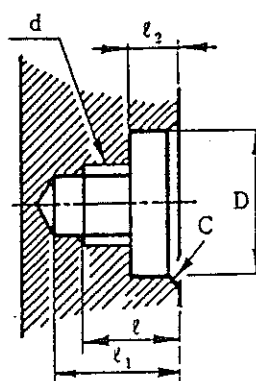

Fig. 5-6
■ THRAD (D in Figure 5-6)
- Pitch and threads/inch (d in Fig. 5-6)
- CBOR ϕ (D in Figure 5-6) Set the counter bore diameter.
- CBORD (ℓ_2 in Figure 5-6) Set the counter bore depth.
Through hole work (ℓ in Fig. 5-6)
- CHAMFR (C in Figure 5-6) Sets chamfering size. When chamfering is unnecessary, set the size to 0.